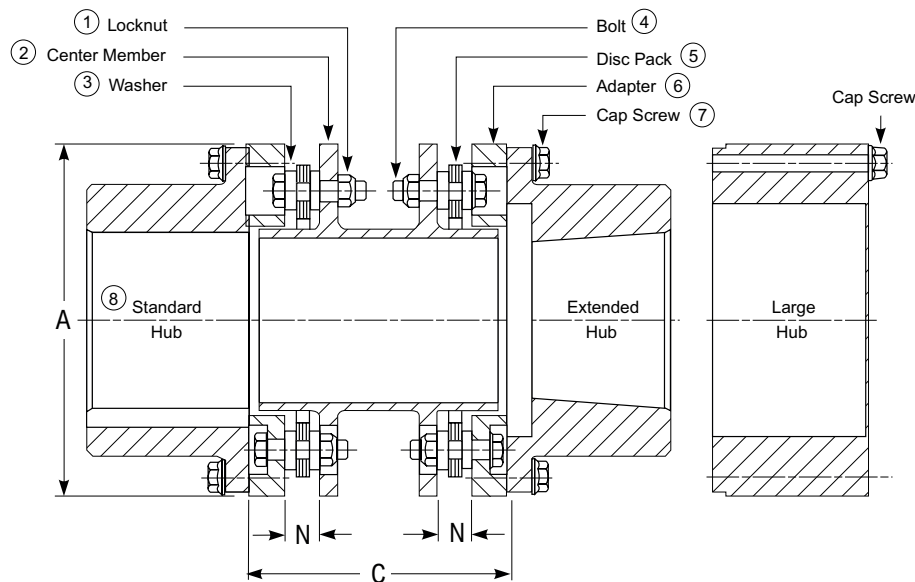

Figure 3 - Thomas Series 71 Cross Sectional View of Components
- 2.6. For ATEX requirements the guard must have a minimum of 12.7 mm (1/2 inch) radial clearance to the coupling outside diameter "A" (see Figure 3 and Table 3) and allow for proper ventilation.